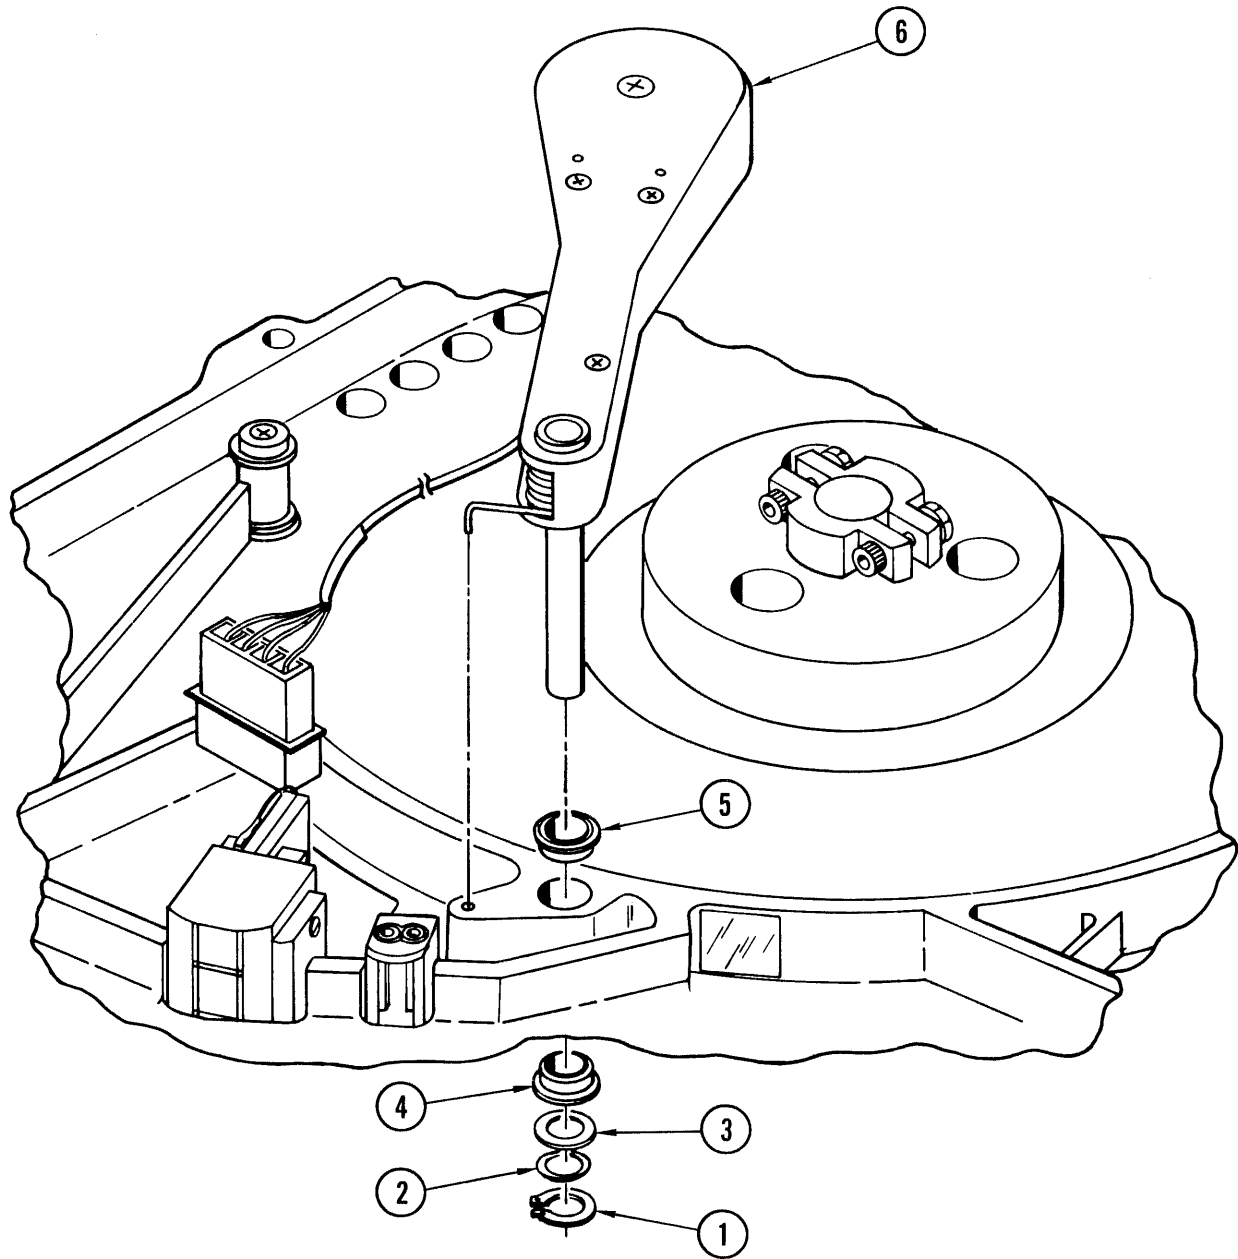

Figure 4-13. Tachometer Assembly
4-27. **Removal and Replacement (Figure 4-13).** Place the transport in service access position (paragraph 4-3) and proceed as follows:
- b. Remove grip ring (1, Figure 4-13), wavespring washer (2), and shim(s) (3) from tachometer post beneath top plate and save for reassembly.
- c. Remove tachometer assembly (6) from top plate, pulling wire harness and connector carefully through hole.
- d. If lower bearing (4) or upper bearing (5) was removed, apply Loctite 601 sparingly to outside surface of replacement bearing before installing.
- e. Install replacement tachometer assembly through upper bearing (5) and lower bearing (4), seating end of spring in adjacent small hole in top plate.
- f. Install shim(s) (3), wavespring washer (2), and grip ring (1). If necessary, install additional shims (3) to compress wavespring half of its height when grip ring is installed.